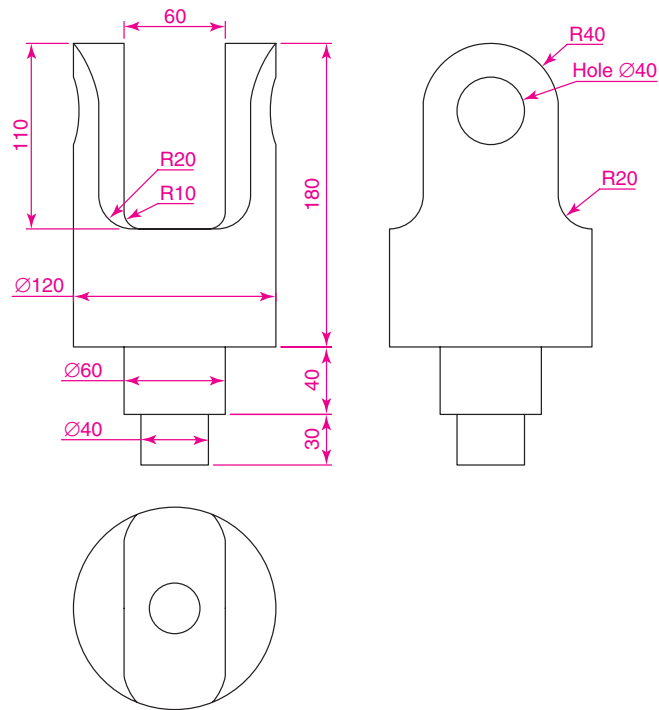

Fig. 7.4 Front and end views and plan of the solid
3. Draw what is seen when the solid is viewed from above the front view. This produces a **plan**. Fig. 7.4 shows the plan below the front view.